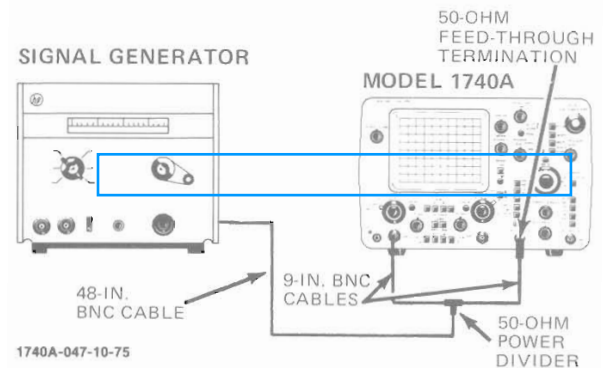

Figure 5-3. External Triggering Test Setup
- a. Connect equipment as shown in figure 5-3.